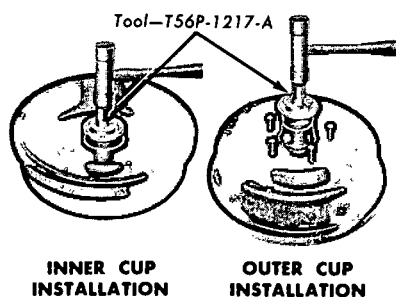

FIG. 3 Installing Front Wheel Bearing Cups—Drum
8. If the inner and/or outer bearing cup(s) were removed, install the replacement cup(s) in the hub with the tool shown in Fig. 3. Be sure to seat the cups properly in the hub.
11. Place the inner bearing cone and roller assembly in the inner cup. Apply a light film of grease to the lip(s) of the grease retainer and install the new grease retainer with the reverse end of the tool shown in Fig. 3. Be sure that the retainer is properly seated.